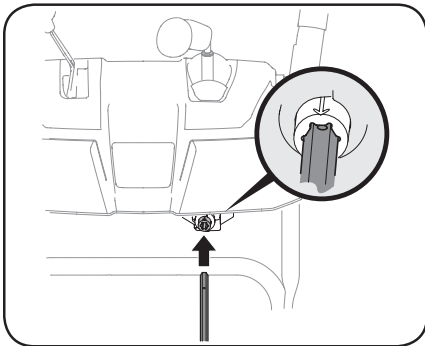

Figure 2-28
6. Insert chute control rod into pinion gear below joystick. Make sure to line up hole in rod with arrow on pinion gear. See Figure 2-28.